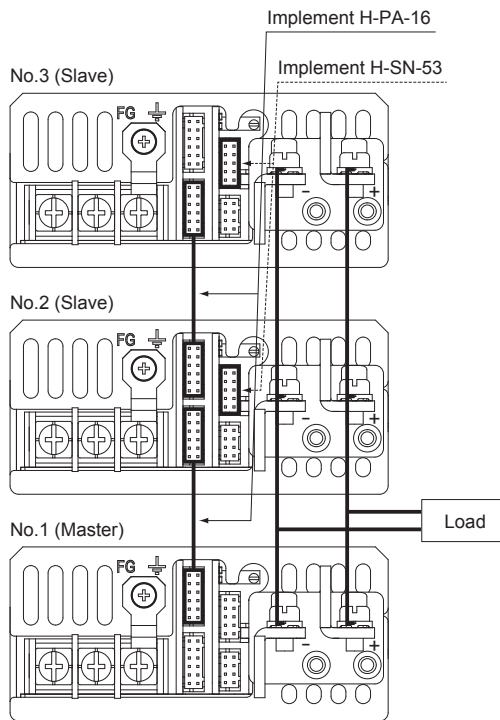

Fig.6.7 Connection method in parallel (PCA300F, PCA600F)
■ Wiring method with series operation is shown in Fig.6.7.